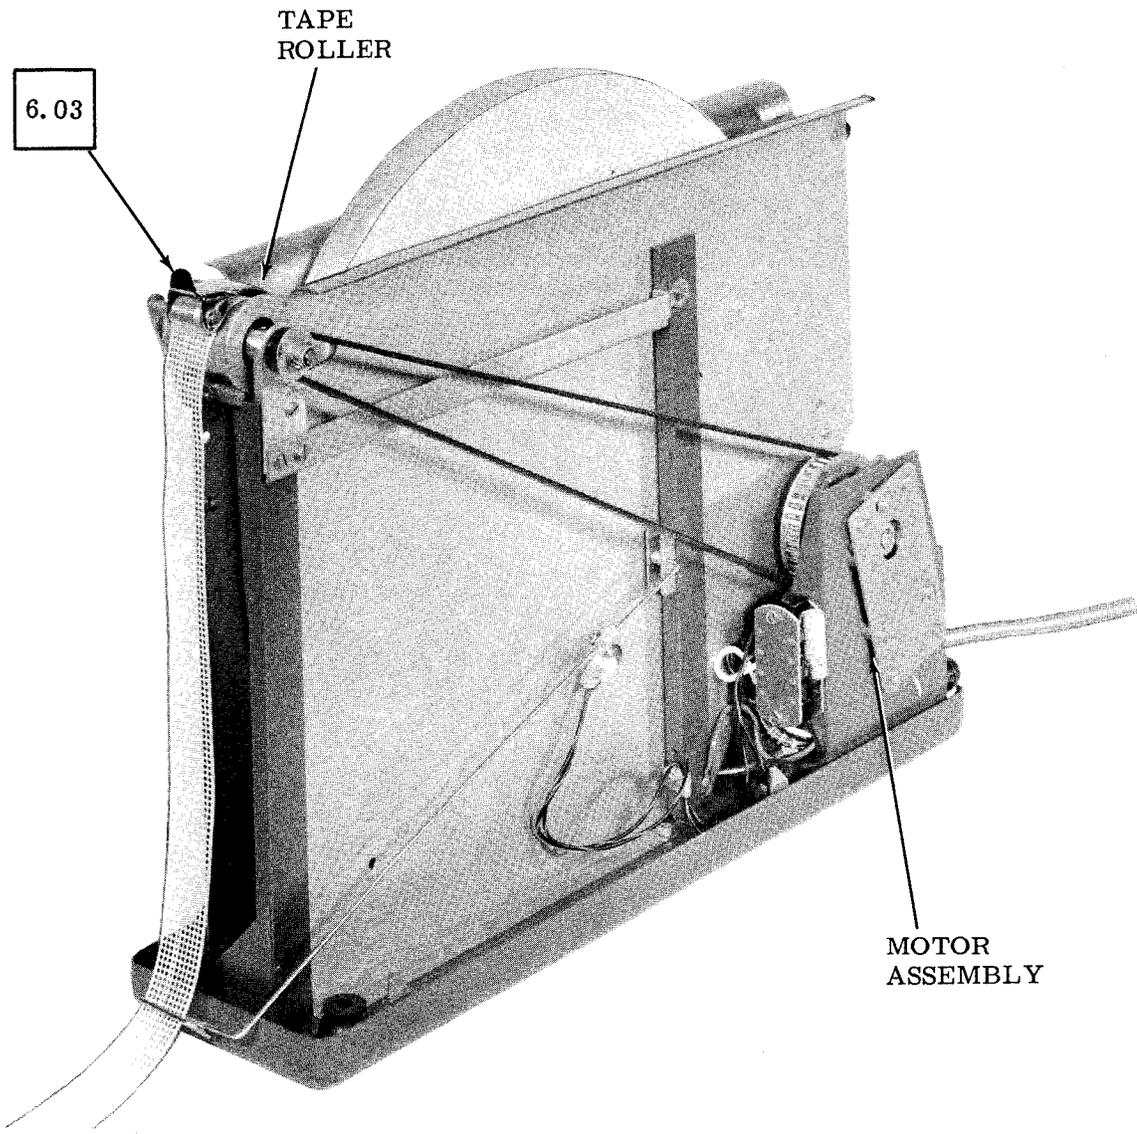

Figure 3. Tape Unwinder with Cover Removed
- 5.01 The following line drawings show adjusting tolerances, position of parts, and spring tensions. Refer to Figure 3 for the location of the assemblies.